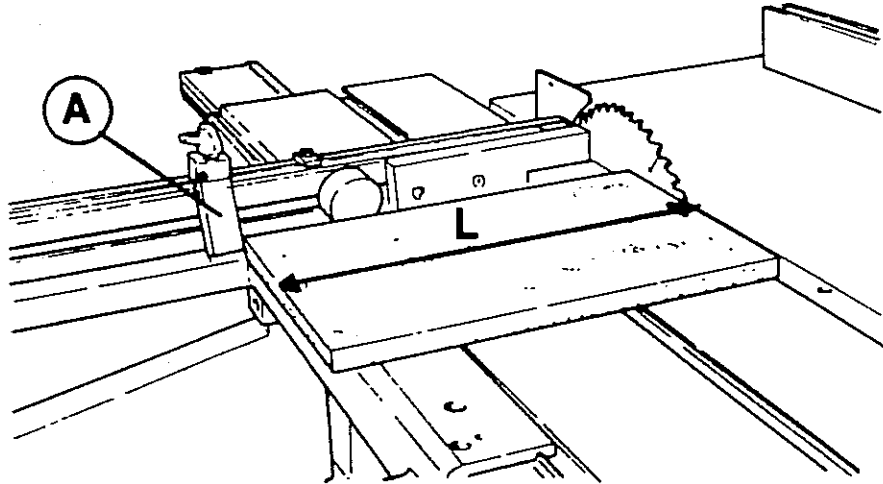

Fig.32
- Leave the position of stop (A fig.32) fixed
- By using the pointer or the lens of stop (A fig.32) move rule (M) until the line corresponding to measure (L fig.32) obtained by cutting the panel coincides with the reference line of the lens of stop (A).